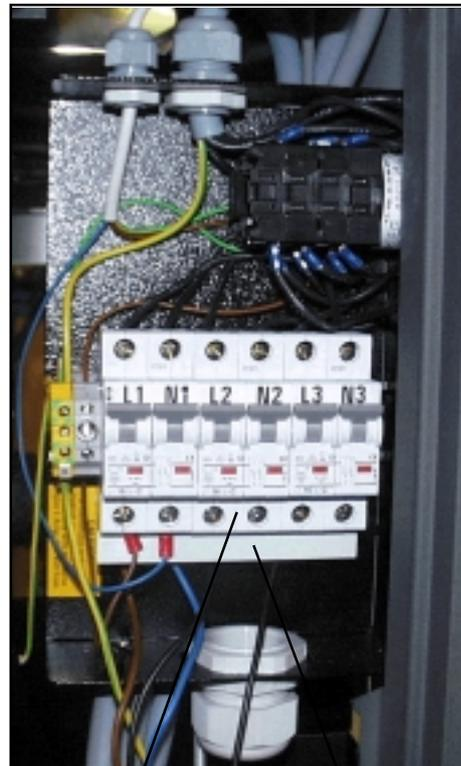

Fig. 3-R
3. Reinstall the cover for the power box by its two screws, fig. 3-Q.